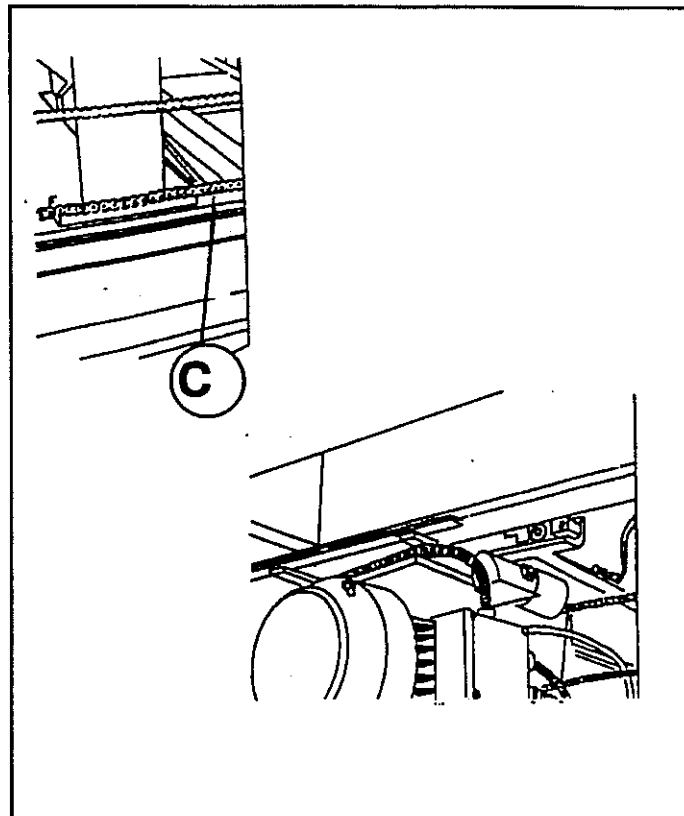

Fig.5.1
Every week clean chain (C) with a jet of compressed air (fig.5.1)